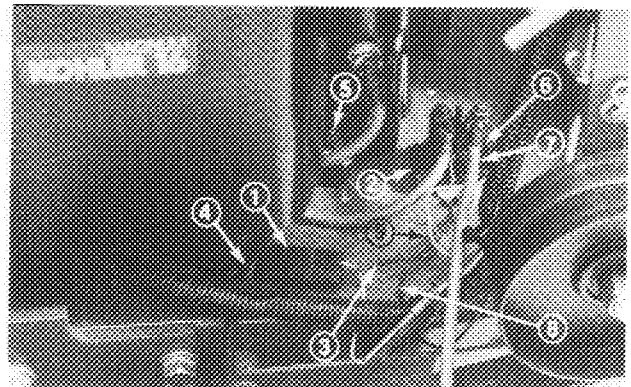

Figure 8
2. At left side of engine, secure male and female clutch connectors (Fig. 8).
3. Remove locknut from left rear engine mounting bolt. Secure negative, black battery cable and ring terminal wire from clutch connector to left rear engine mounting bolt with locknut removed (Fig. 8).
4. Secure remaining gray ring terminal wire from wire harness and positive, red battery cable to rear terminal of starter solenoid with a 1/4-20 locknut (Fig. 8).